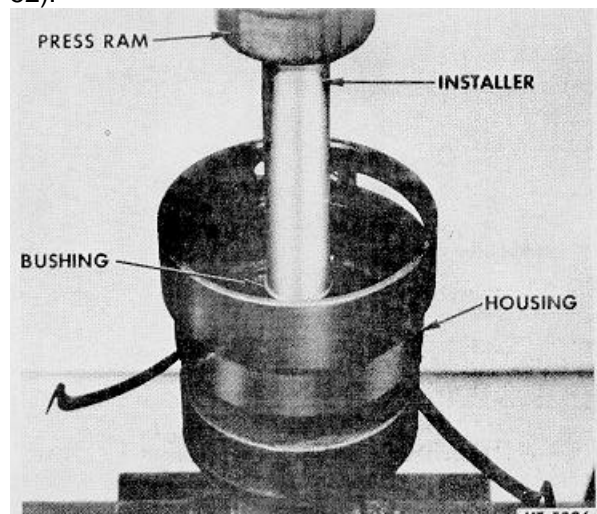

Fig. 52 Using Installer SE-1955-8 to Install Upper Bushing.
9. Position distributor housing in press and insert bushing installer (SE-1955-8) into bushing (Fig. 52).